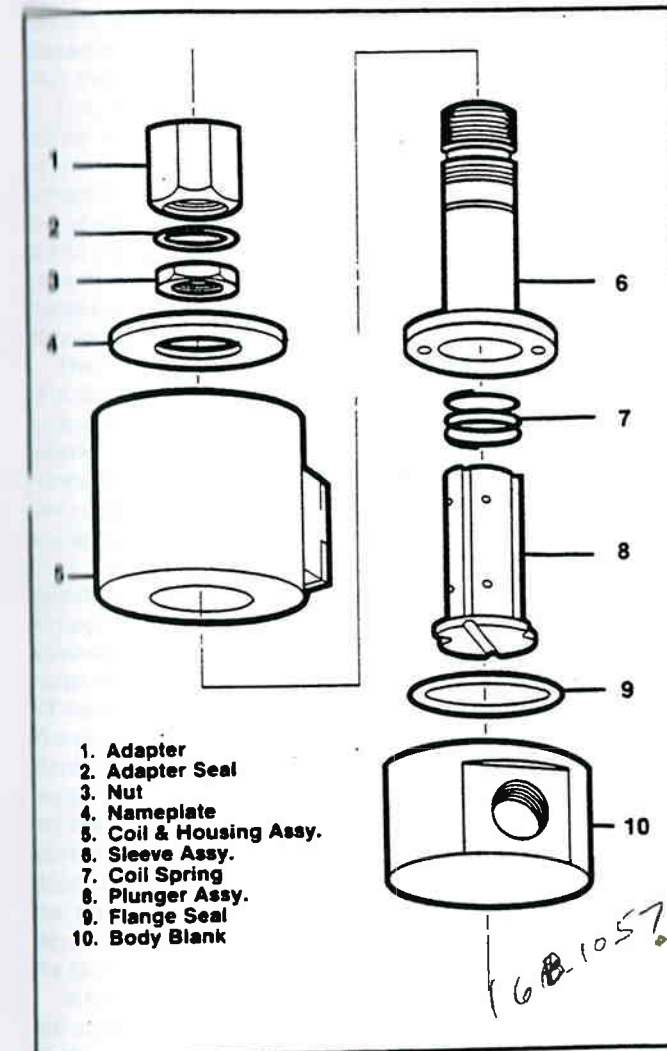

Figure 3-22. Entrance Door Solenoid.
3. Unscrew the sleeve assembly from the body (figure 3-22).